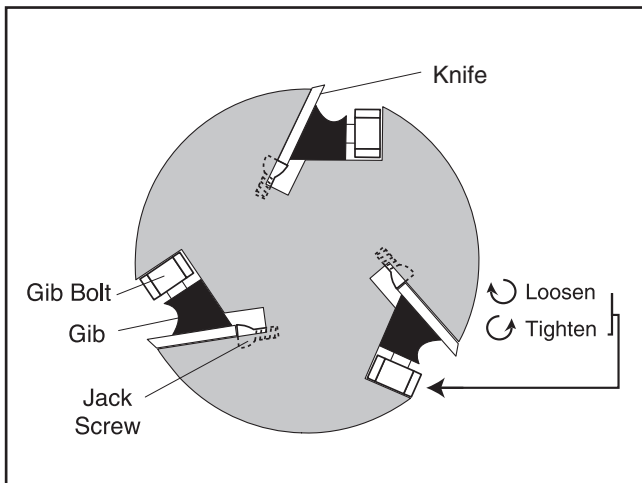
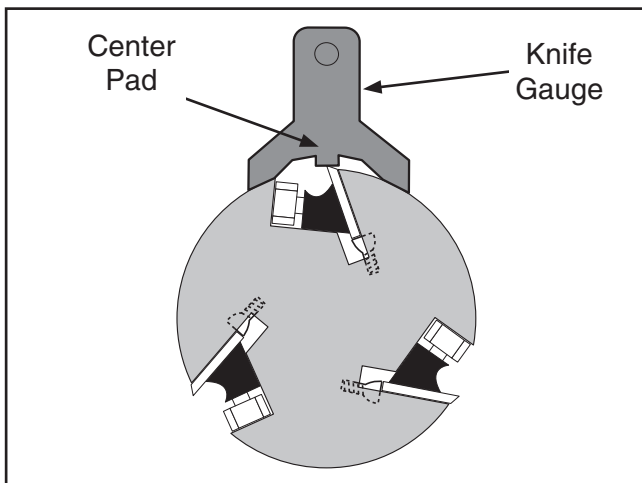

Figure 2. Cutterhead components.
Figure 3. Knife gauge correctly positioned over the knife.
- Rotate the V-belt to give you good access to one of the knives shown in **Figure 2**.
- If you have not already done so, loosen the cutterhead gib bolts (see **Figure 2**) until the knife is completely loose, then position the knife gauge over the knife so that the knife edge is directly under the center pad, as shown in **Figure 3**.